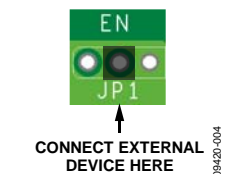

Figure 4. EN Pin Direct Connection
- Directly control the EN pin by connecting an external device to the center pin of JP1 (see Figure 4). Apply a voltage between GND and VIN.